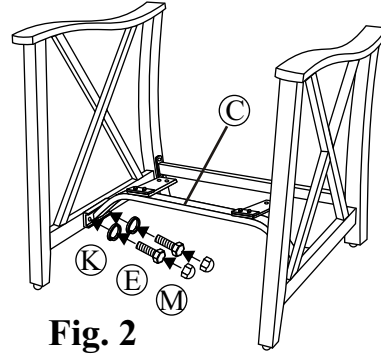

Fig. 2
Step 3: Attach the support bar to the chair legs by using the 1/4"x20mm bolts (E) and the Ø6.5x1.6mm spring washers as shown in Fig. 2. Guide these bolts through the holes in the support bar, into the pre-drilled holes in the chair legs. **Hand tighten only.**